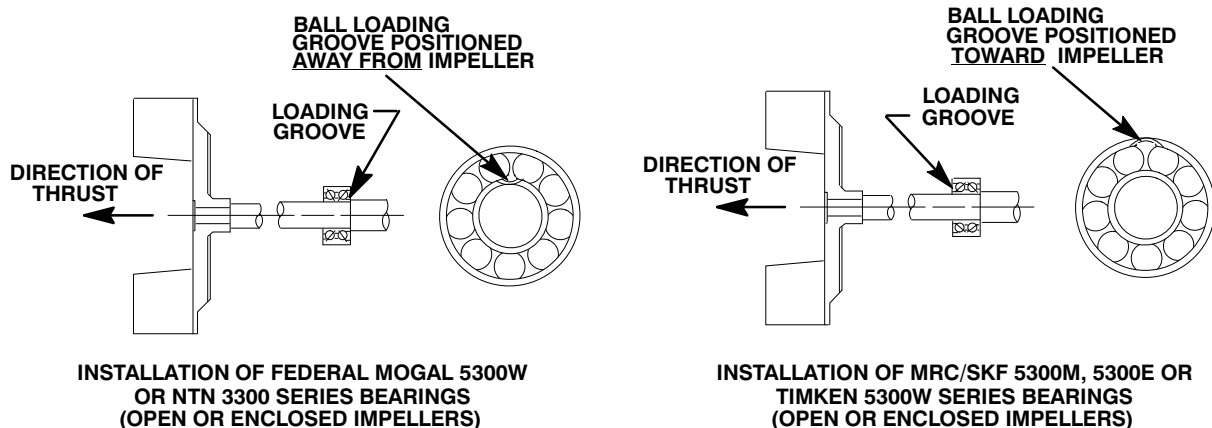

Figure 6. Inboard Bearing Positioning
Position the inboard bearing (10) on the shaft as indicated in Figure 6.